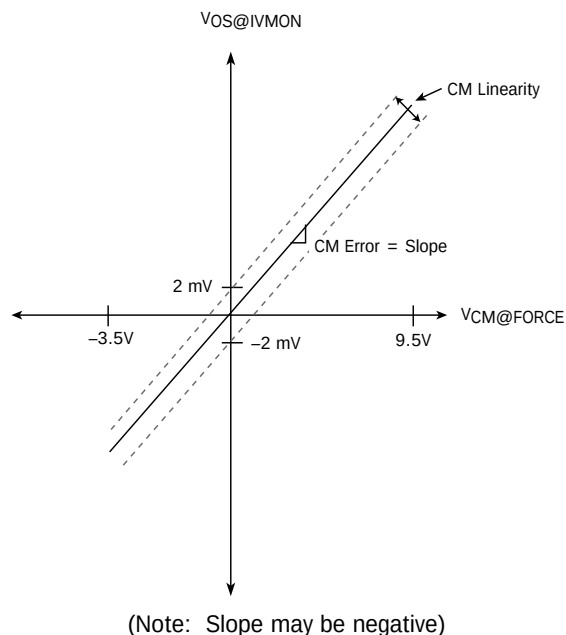

Figure 2. Graphical Representation of Common Mode Error
In order to attain a high degree of accuracy in a typical ATE application, offset and gain errors are accounted for through software calibration. When operating the Edge4717D in the Measure Current (MI) or Force Current (FI) modes, an additional source of error, common mode error, should be accounted for. Common mode error is a measure of how the common mode voltage, V_{CM}, at the input of the current sense amplifier affects the forced or measured current values (see Figure 2). Since this error is created by internal resistors in the current sense amplifier, it is very linear in nature.